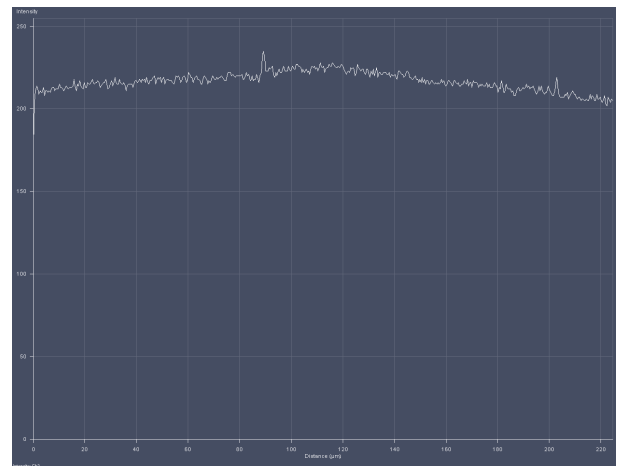

Fig. 287 Line diagram at upper cover slip surface
- Having slowly moved over a short distance the line position will decline again to a minimum and then rise again to a second maximum (Fig. 287), which corresponds to the upper cover slip surface.